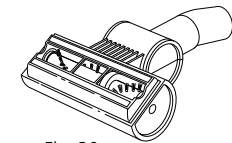

Fig. 30
- 3 Turn the power brush over to inspect the rotating brush and cut away any build-up of hair or string wrapped around the rotating bristle brush with scissors. (Fig. 30)